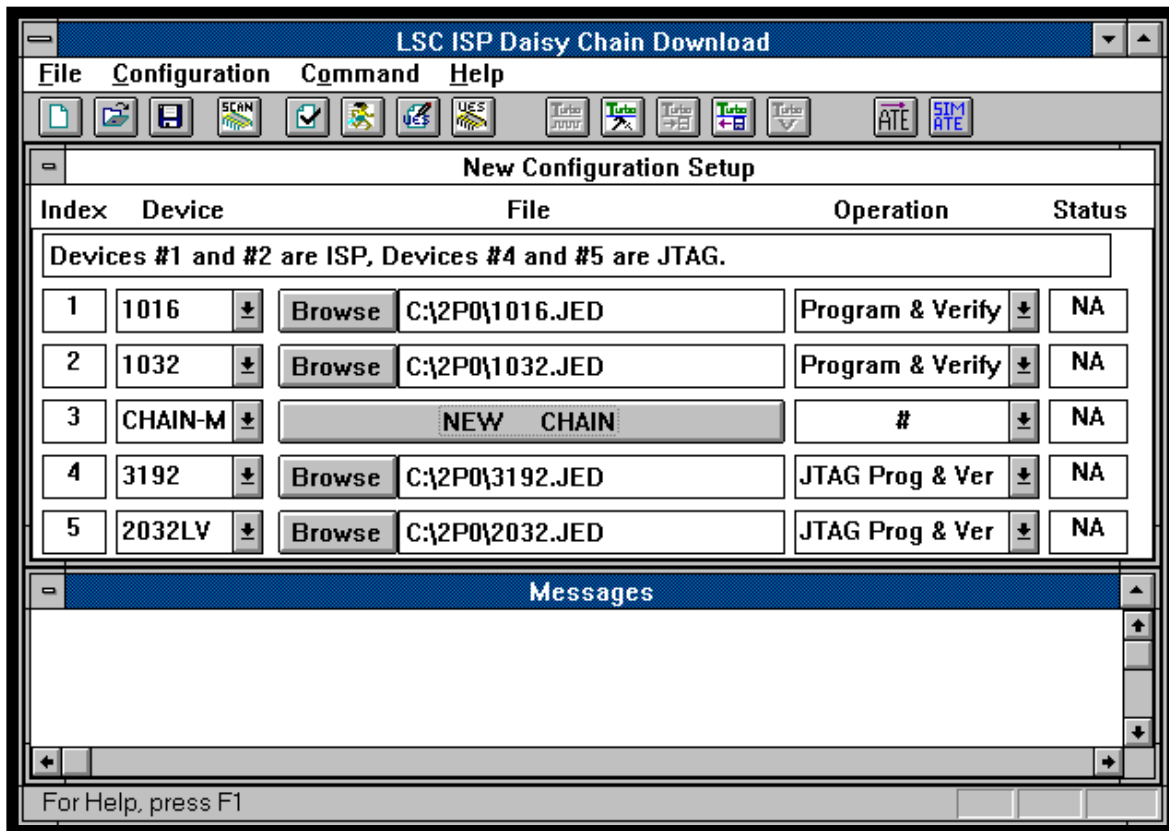

Figure 3-10. ispLSI and ispJTAG Operation Selection Options
5. Select the ISP or ispJTAG Operation (Figure 3-10). Use the arrow button to activate the pull-down menu.